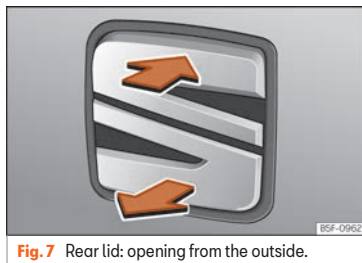

Fig. 7 Rear lid: opening from the outside.
- Opening the rear lid: pull on the release lever and lift it up »» **Fig. 7**. The rear lid opens automatically.